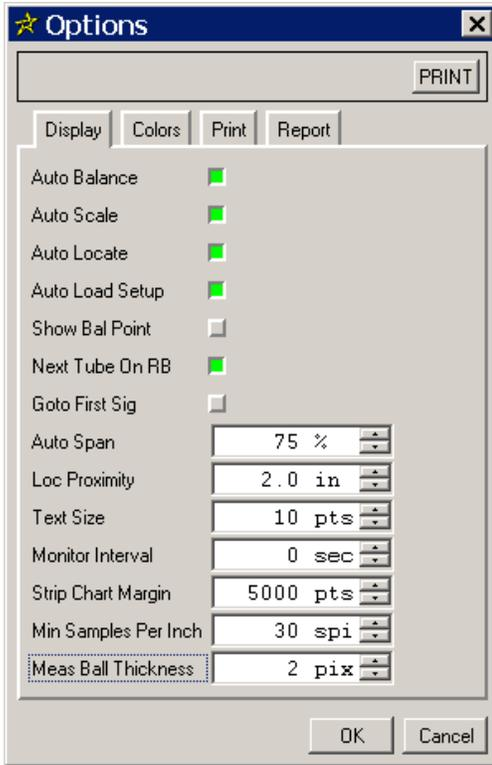

Figure 1-5. Options Dialog - Display Tab
- STEP 3:** Modify the settings to match the ones shown in Figure 1-5.